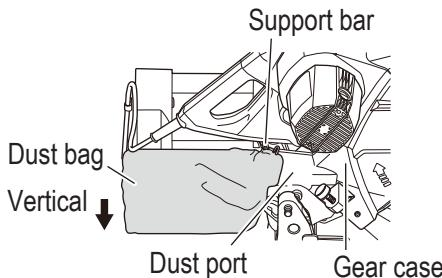

Fig. 7
### (1) Installing the dust bag (Fig. 7)